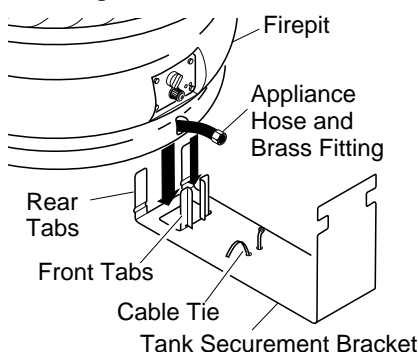

Figure 2 - Attaching Tank Securement Bracket and Cable Tie
1. Thread cable tie through 2 holes in bottom of tank securement bracket. Tie should be threaded from underneath bracket to be accessible when bracket is in position on the ground (see Figure 2). Do not close cable tie at this time.
2. Position the firepit and tank securement bracket as shown in Figure 2. Center the appliance hose and brass fitting between the front tabs of securement bracket. Lift the firepit and slide the rear tabs of the bracket under the firepit. The front tabs of the bracket will remain on the outside of the firepit on either side of the appliance hose.